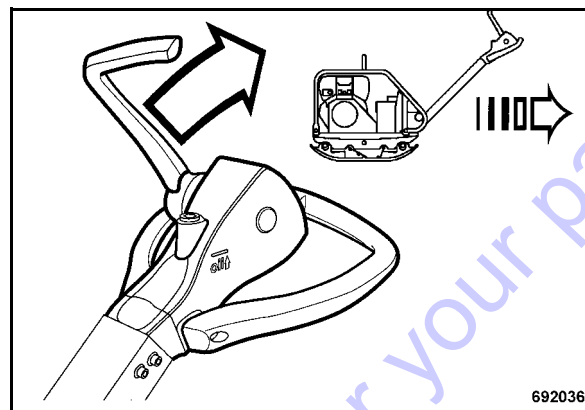

Fig. 27
- Pull the travel lever (Fig. 27) back, until the vibratory plate has reached the desired speed in reverse.